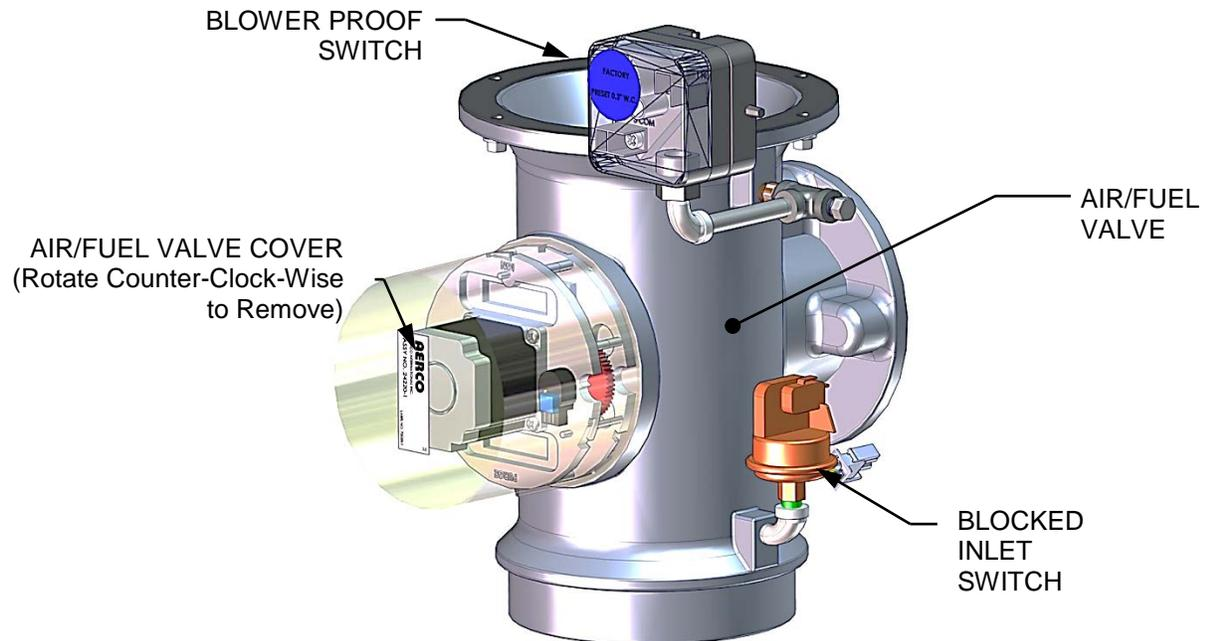

Figure 5-10a: Air/Fuel Valve Cover Location – BMK 1500 – 3000
3. Remove the Air/Fuel Valve cover by rotating the cover counterclockwise to unlock it (see Figure 5-10a and 5-10b).
3. Remove the Air/Fuel Valve cover (Figure 5-10a or 5-10b, above) by rotating the cover counterclockwise to unlock and lift up to remove.